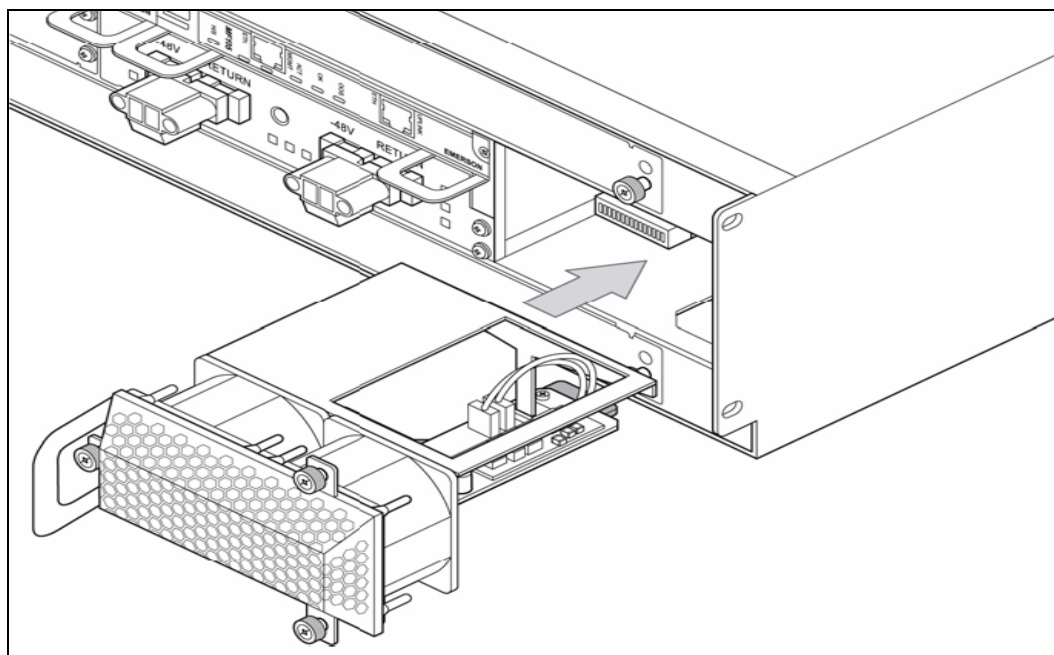

Figure C.8 - Rear Fan Tray
6. Slide the tray into the slot until you feel resistance (see **Figure C.8**). The fans start rotating during this step.